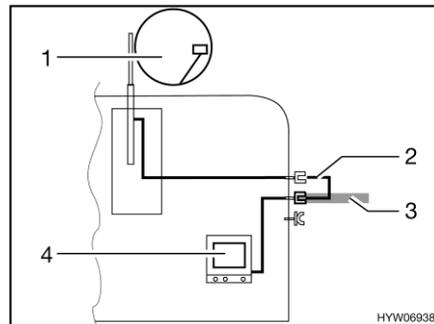

Fig. 222 TV inside the vehicle
- TV inside the vehicle (Fig. 222,4): Connection to roof antenna (Fig. 222,1) with connection cable (Fig. 222,2)
- TV inside the vehicle (Fig. 222,4): Connection to external antenna (Fig. 222,3)